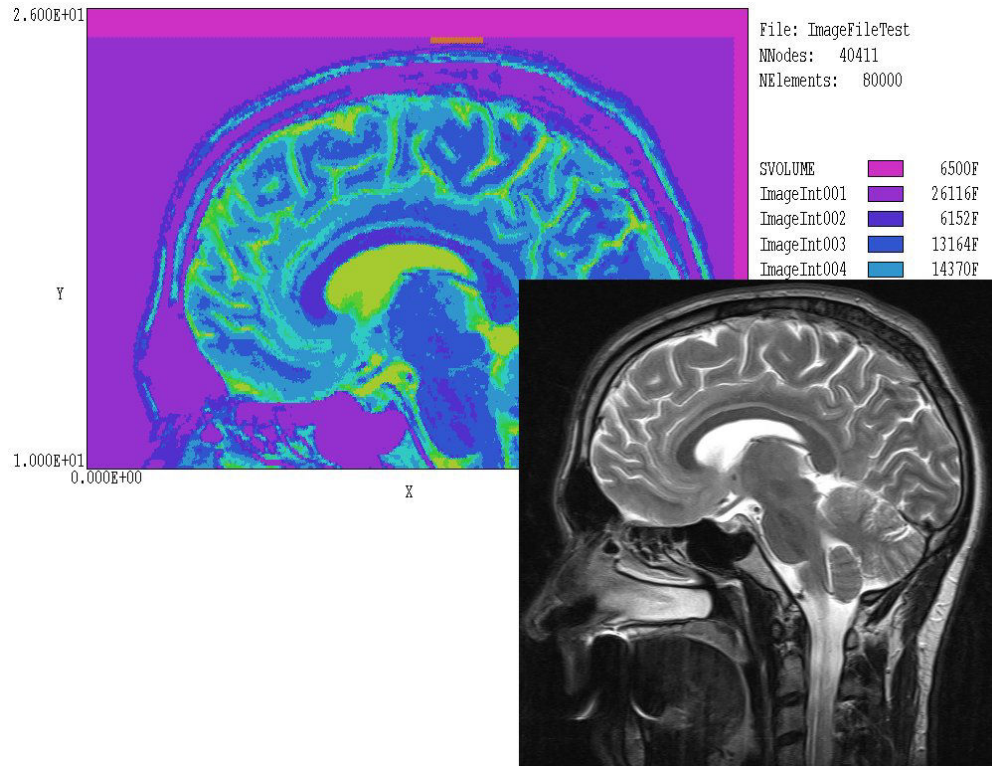

Figure 32: Example BRAINMRI – conversion of a bitmap image to a conformal triangular mesh.
This section introduces procedures for creating meshes from visual images using the example of Fig. 32, conversion of a gray-scale MRI bitmap image to a conformal mesh. The example illustrates many of the advanced features in **Mesh**. It also illustrates what we can expect to accomplish with visual image conversion. Before beginning, it is important to understand some limitations and constraints.
- To perform electric field or thermal solutions, the image must be consistent with the two-dimensional symmetries handled by the codes of the **TriComp** series. The image of Fig. 32 represent a two-dimensional slice of a three dimensional object – we should consider it only as a demonstration of mesh techniques.
- In processing visual images, **Mesh** converts RGB values to HLS values. The program can divide the solution area into regions based on either *Hue* or *Lightness* values. These values must have some correlation with the physical properties assigned to the regions in subsequent solution programs. Sometimes images may be directly useful. For example, we could photograph the cross-section of a complex iron pole piece with a distinctive color and use the picture to generate the corresponding region in a magnetic field solution. The image of Fig. 32 may not be directly useful. The lightness values depend on the concentration of nuclear species and there may be little direct correlation with quantities like thermal or electrical conductivity.
- The utility of images can be enhanced by pre-processing with programs like PaintShop Pro, PhotoShop or GIMP. For example, we could use the lasso method to select critical brain structures in Fig. 32 and then to change them to a distinctive color that could be easily identified by **Mesh**.
- BRAINMRI.BMP. The bitmap image (shown on the lower right-hand side of Fig. 32) in Windows/OS2 bitmap format.
The remaining two *Region* sections place electrodes on the skull. The region *Electrode02* is visible as the orange rectangle near the top of the mesh in Fig. 32.